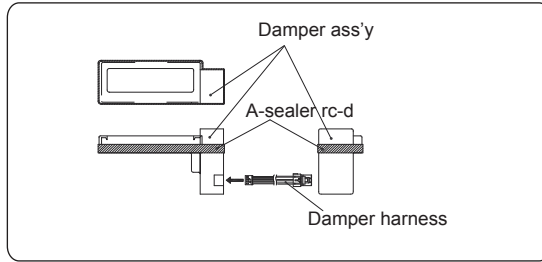

Figure A-9
- 7) Insert Damper harness to Damper ass'y. (Figure A-9)